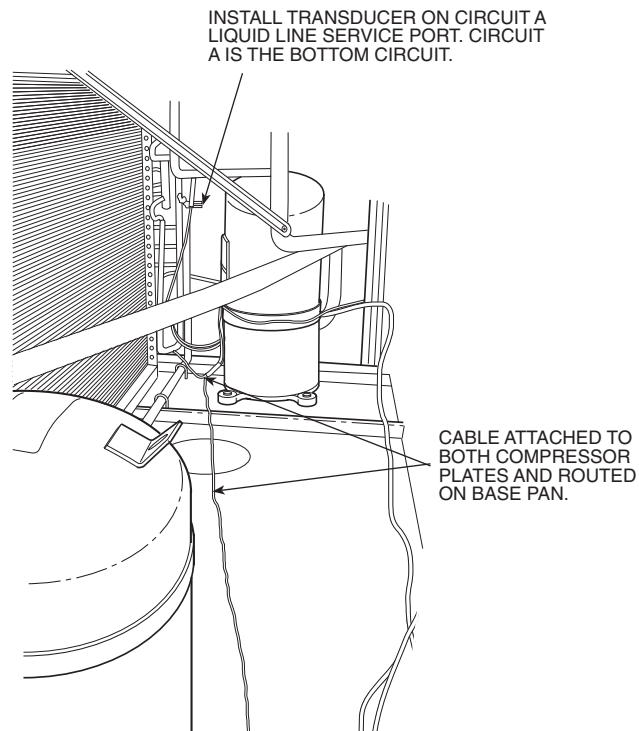
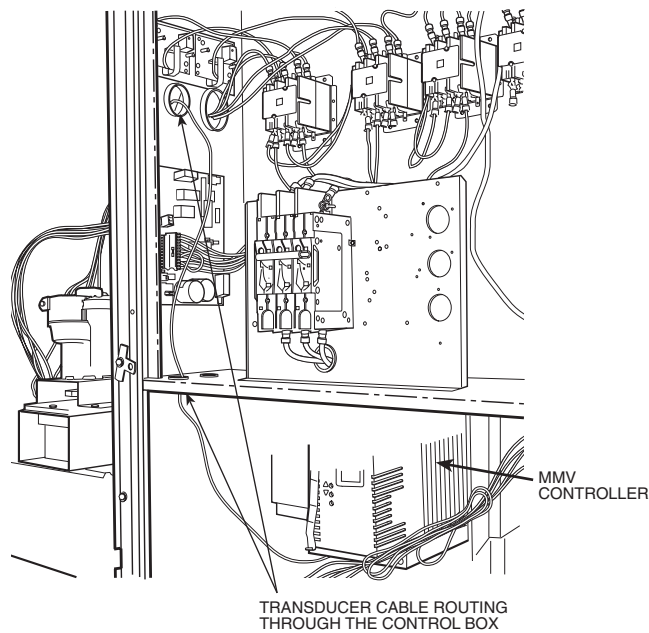

Fig. 7 — Transducer Location
Fig. 8 — Transducer Cable Routing
16. Attach supplied pressure transducer to liquid line service port as shown in Fig. 7. Route the transducer cable on the basepan and attach to the motor base plate using the supplied ring wire ties and self-tapping screws. Next, route the cable through the bulkhead with the existing wiring harness. Last, insert the 7/8 in. snap bushing in the hole on the side of the control box and route the transducer cable through the control box to the MMV control as shown in Fig. 8.
14. Attach supplied pressure transducer to liquid line service port as shown in Fig. 7. Route the transducer cable on the basepan and attach to the motor base plate using the supplied ring wire ties and self-tapping screws. Next, route the cable through the bulkhead with the existing wiring harness. Last, insert the 7/8 in. snap bushing in the hole on the side of the control box and route the transducer cable through the control box to the MMV control as shown in Fig. 8.